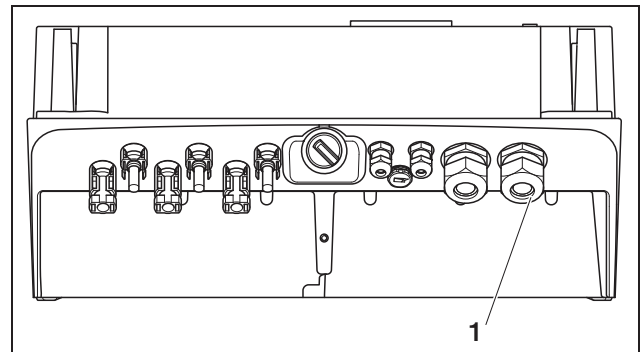

Fig. 10: Connections on the housing
- Unscrew the cable screw connection for the mains cable (1 in figure 10).